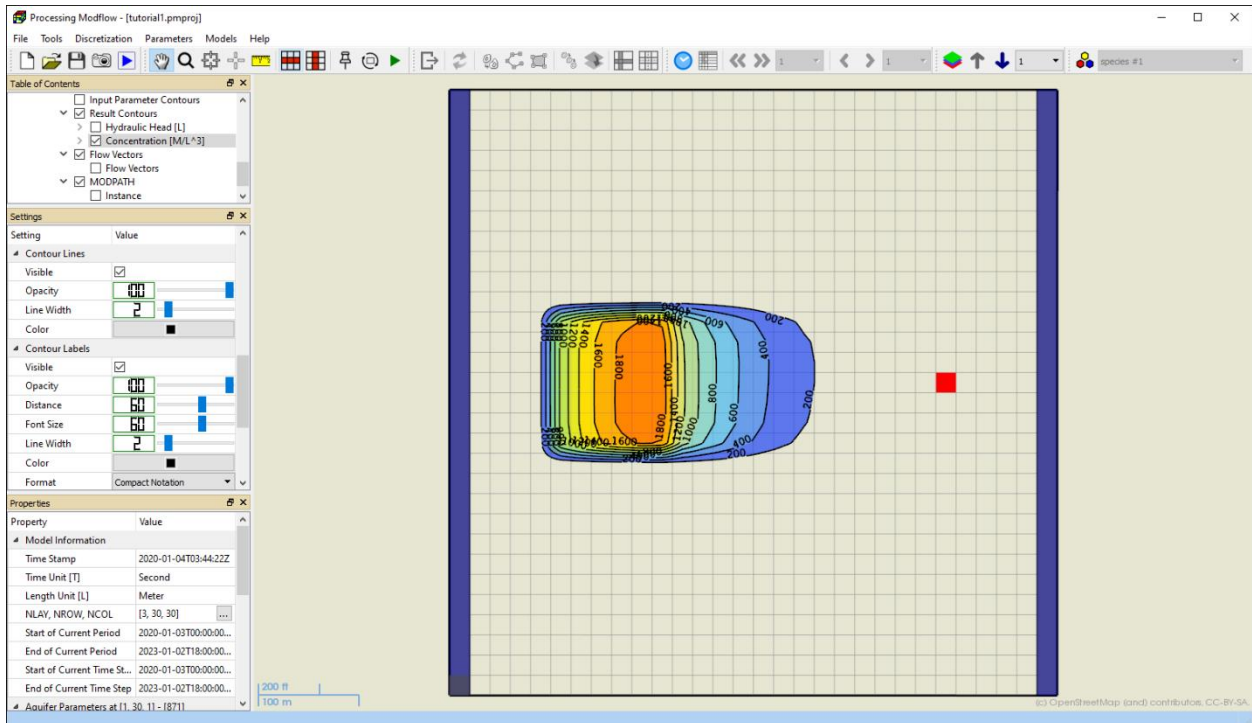

Figure 30. Color-filled concentration contours in Layer 1
- You may adjust the display of the newly added item by using its Settings window. For example, Figure 30 shows the color-filled contours with a larger font size for contour labels and modified contour levels. See User Guide of PM for details about the available settings. Note that you can uncheck the previously created items in the Visualization group on the TOC to hide them.